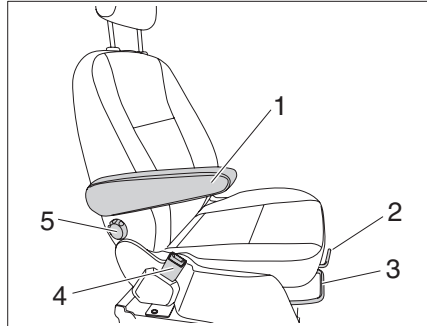

Fig. 14 Driver's seat and front passenger's seat
- ▶ Raise the armrest (Fig. 14,1).
- ▶ Pull the bar (Fig. 14,3) and push the driver's seat/passenger seat forward.
- ▶ Pull the release lever (Fig. 14,2) and turn the seat.
- ▶ Pull the bar (Fig. 14,3).
- ▶ Rotate the adjustment wheel (Fig. 14,5) for the backrest adjustment.